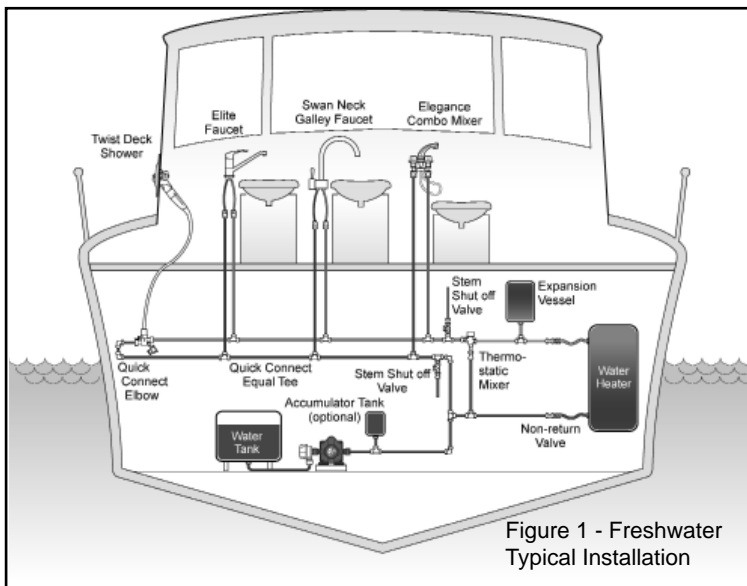

Figure 1 - Freshwater Typical Installation
- The Thermostatic Mixer Valve **must be** fitted in line with the hot and cold water feeds - prior to all outlets (see fig. 1 and 2).